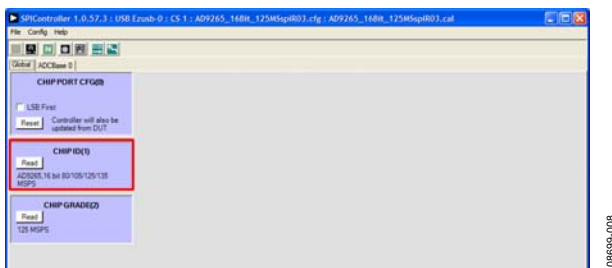

Figure 8. SPIController, CHIP ID(1) Box
1. Open the SPIController software by going to the **Start** menu or by double-clicking the **SPIController** software desktop icon. If prompted for a configuration file, select the appropriate one. If not, check the title bar of the window to determine which configuration is loaded. If necessary, choose **Cfg Open** from the **File** menu and select the appropriate file based on your part type. Note that the **CHIP ID(1)** field should be filled to indicate whether the correct **SPIController** configuration file is loaded (see Figure 8).